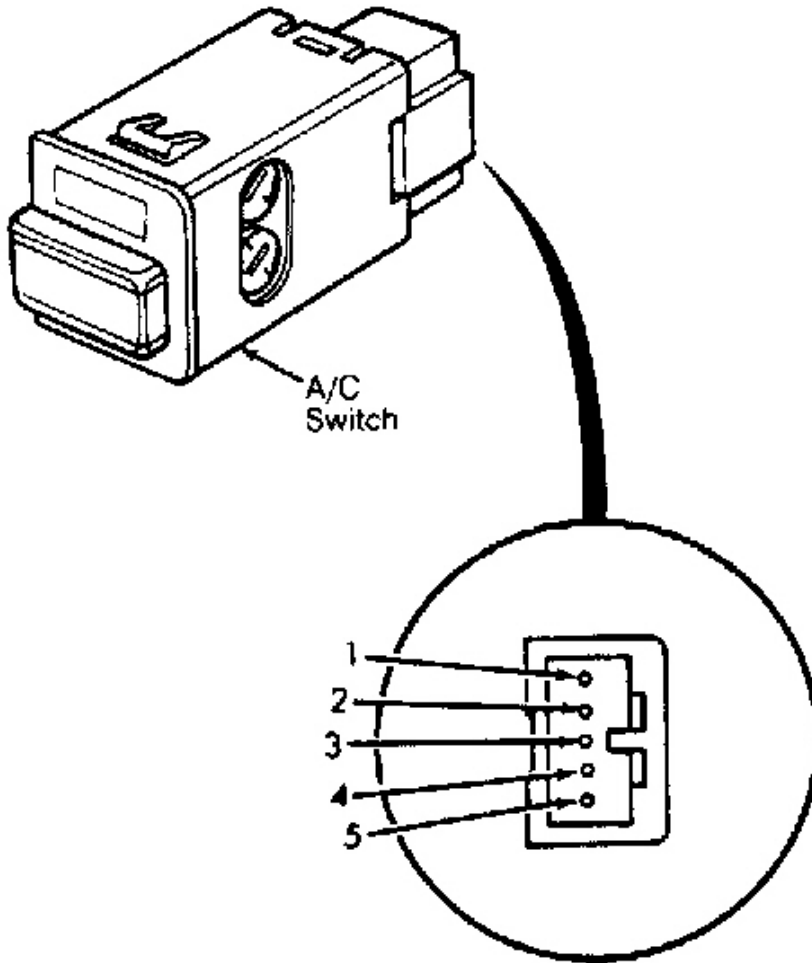

Fig. 6: Testing A/C Switch
1. Remove A/C switch. With A/C switch in OFF position, continuity should exist between terminals No. 1 and 2. See **Fig. 6**. Continuity should also exist between terminals No. 3 and 5.